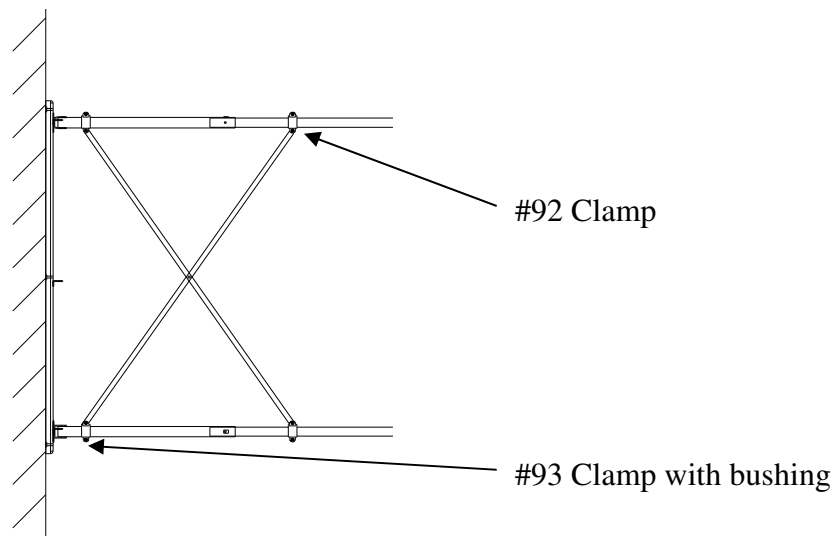

Figure 6. Cross bracing example.
- 12) To further brace the unit, the strap bracing should be installed on the lower extension arms. To complete this, the #93 clamps with bushings should be attached to the outer extension pipes. On the inner pipes, as close to the outer pipe as possible, attach #92 clamps. Before tightening down the carriage bolts, install the strap bracing on each clamp (as shown in figure 6). Secure the two braces together with a hex bolt and lock nut.